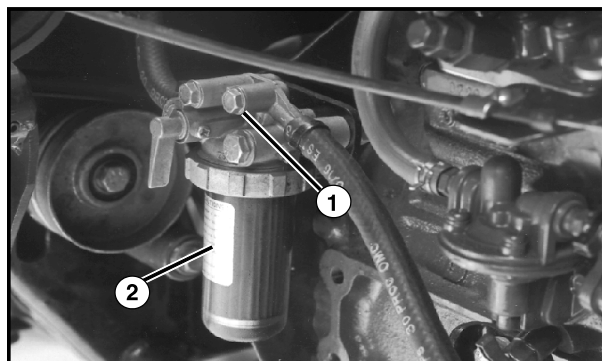

Figure 6.5.1
2. Open the air vent on top of the fuel filter (See Fig. 6.5.1).